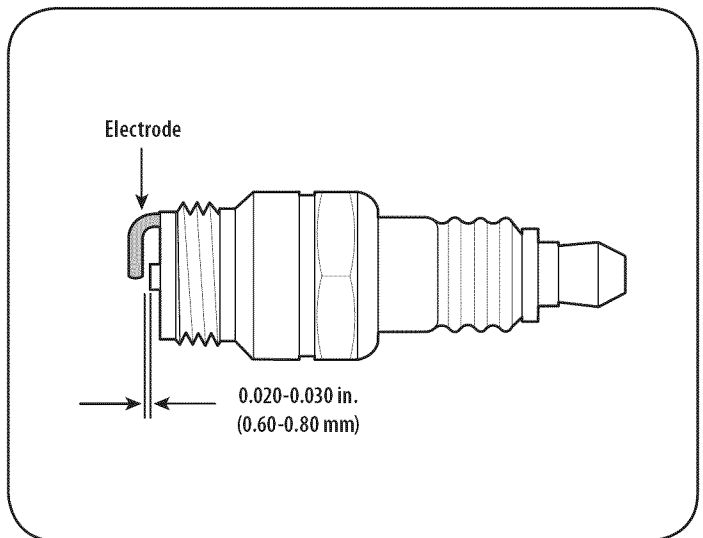

Figure 18
3. Measure the plug gap with a feeler gauge. Correct as necessary by bending side electrode. See Figure 18. The gap should be set to 0.020-0.030 inches (0.60-0.80 mm).